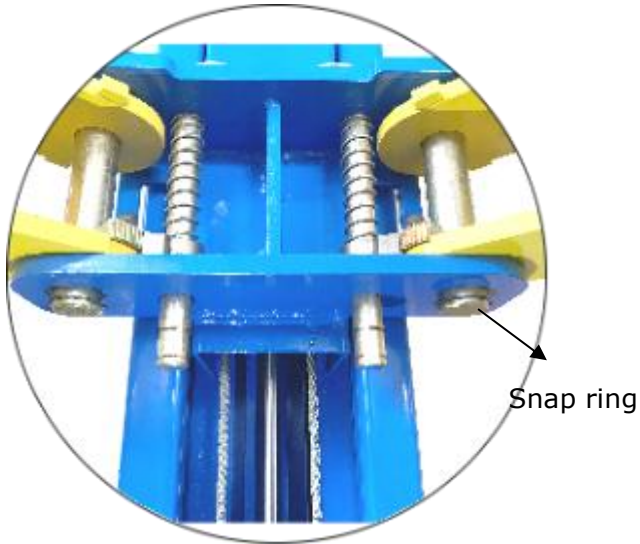

Fig. 34
1. Install lifting arms (**See Fig. 34**).